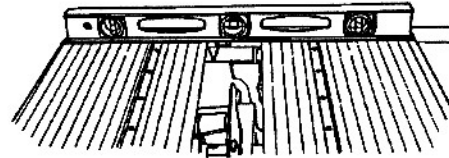

Fig. B-5
3. Place the carpenter's level along the table's back edge, as illustrated in Fig. B-5.